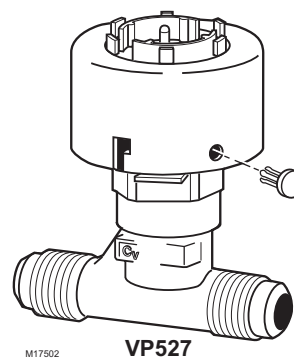

Fig. 1. Cover peg removal.
2. Remove and set aside peg from actuator cover (see Fig. 1):